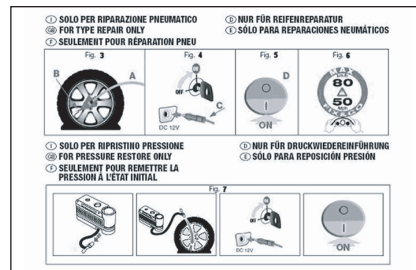

fig. 12
- ☐ instruction brochure (see **fig. 12**), to be used for prompt and proper use of the quick repair kit and to be then handed to the personnel charged with handling the treated tyre